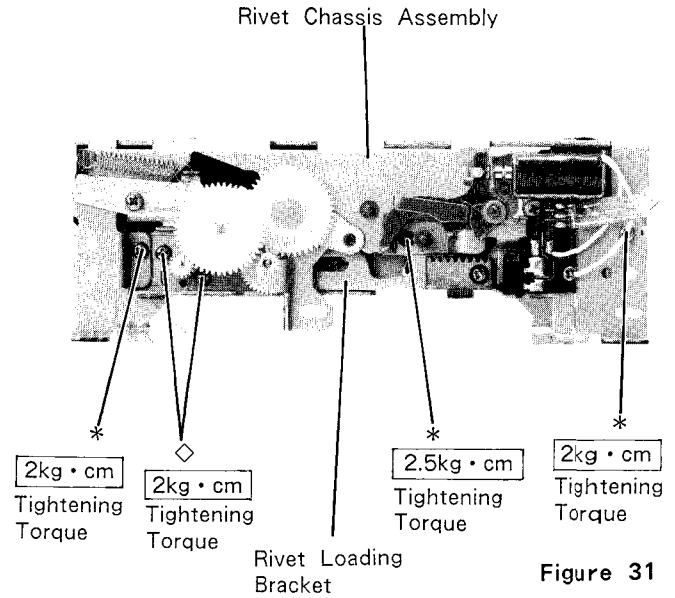

Figure 31
- (2) Remove three screws marked "\*", and the Pickup Unit with Rivet Loading bracket Assembly can be removed as shown in Figure 31.